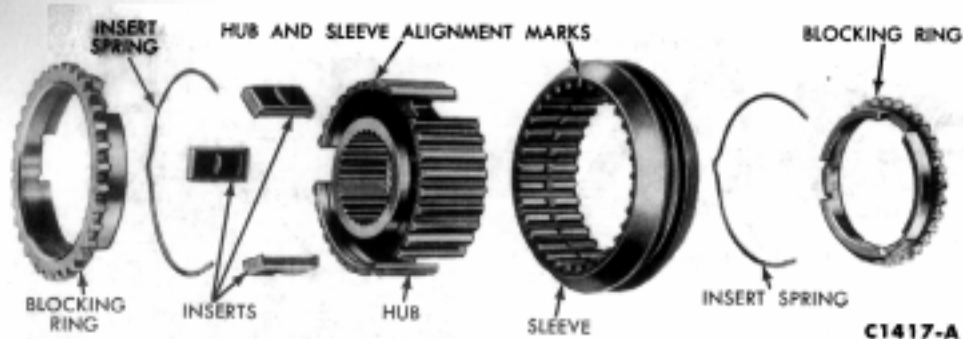

FIG. 21—Second and Third Synchronizer—Disassembled
4. Install one insert spring (Fig. 21) into a groove of the second and third speed synchronizer hub, making sure that all three insert slots are fully covered. With the alignment marks on the hub and sleeve aligned, start the hub into the sleeve. Place the three inserts on top of the retaining spring and push the assembly together. Install the remaining insert spring, so that the spring ends cover the same slots as does the other spring. Do not stagger the springs. Place a synchronizer blocking ring on each end of the synchronizer sleeve.